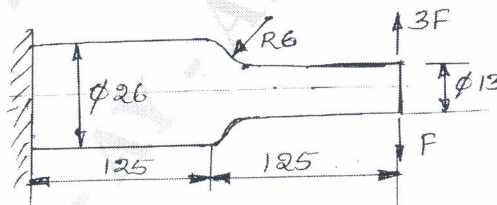

Fig.Q2(c)
c. A cantilever beam as shown in Fig.Q2(c) made up of cold drawn steel of circular cross section with diameters 26 mm and 13 mm as shown. It is subjected to varying load from 3F (positive) to -F (negative). Solve and determine the maximum load, taking FOS 2.5. Theoretical stress concentration factor at the radius is 1.42, Notch sensitivity of 0.9 and $\sigma_u = 550$ MPa, $\sigma_y = 400$ MPa, $\sigma_{en} = 200$ MPa. Analyze the beam at the change of cross section.